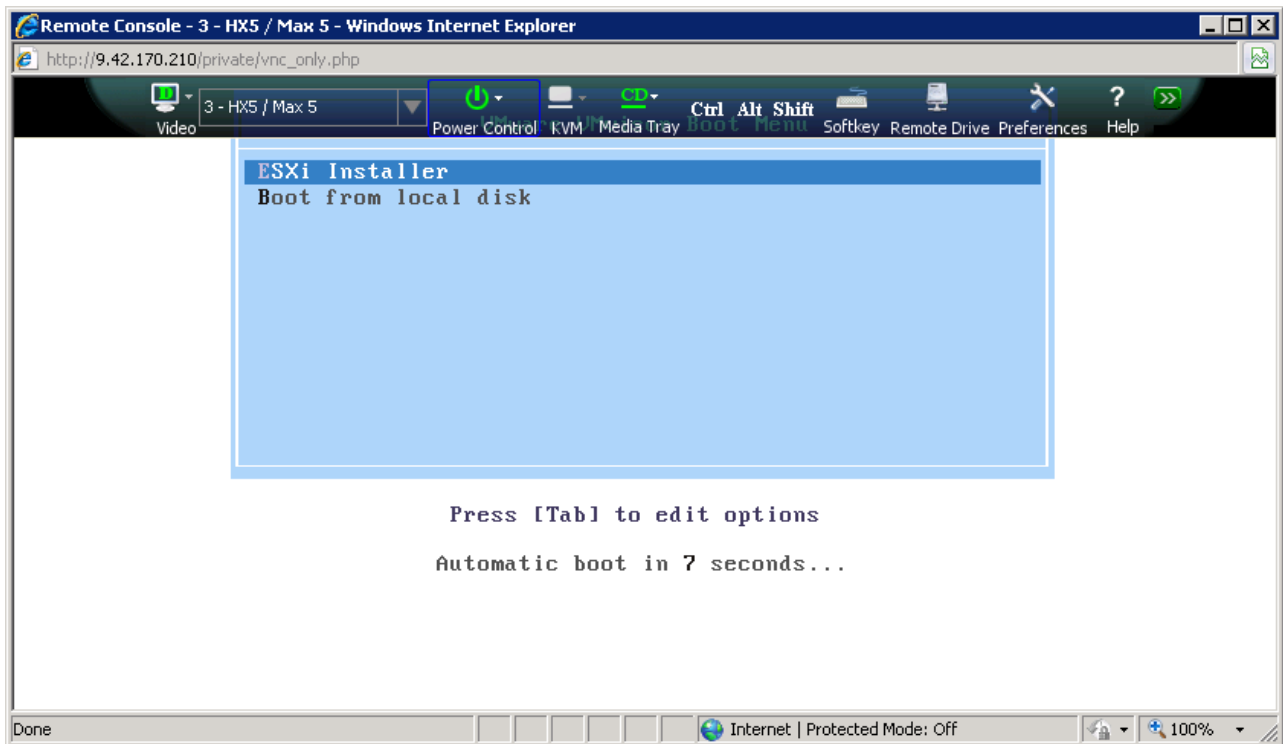

Figure 8-63 Installing ESXi 4.1 Installable edition
3. Press the Tab key when the blue boot panel appears, as shown in Figure 8-63.